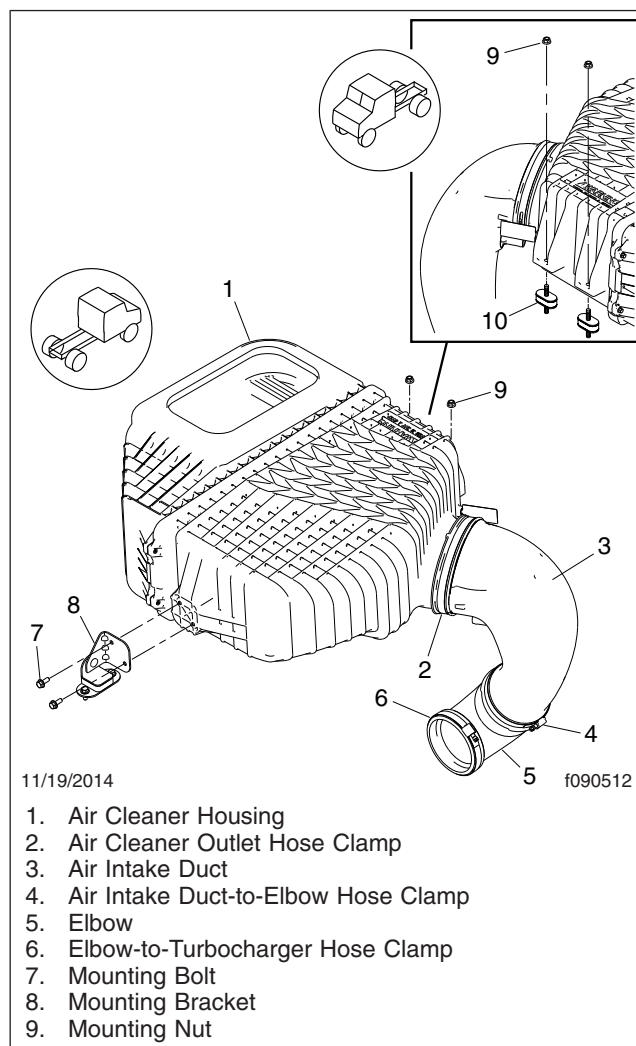

Fig. 1, Engine-Mounted Air Cleaner and Ducting, 5700 Models
1. Ensure that the mounting fasteners for the air cleaner housing are tight. See Fig. 1.